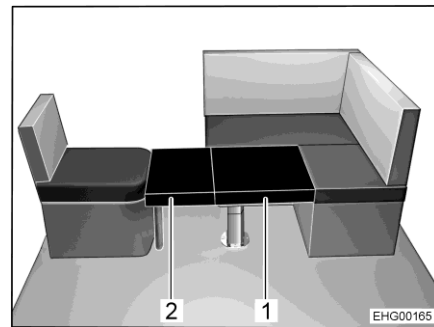
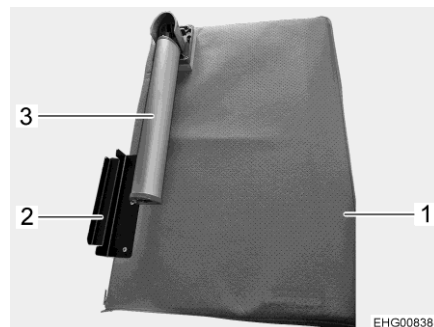

Fig. 126 After conversion
Fig. 127 Additional board
- Unfold the support foot (Fig. 127,3) on the additional board (Fig. 127,1).
- Attach the support bracket (Fig. 127,2) of the additional board to the individual seat and place the additional cushion (Fig. 126,2) on the table top.
- Place the second additional cushion (Fig. 126,1) on the table top.